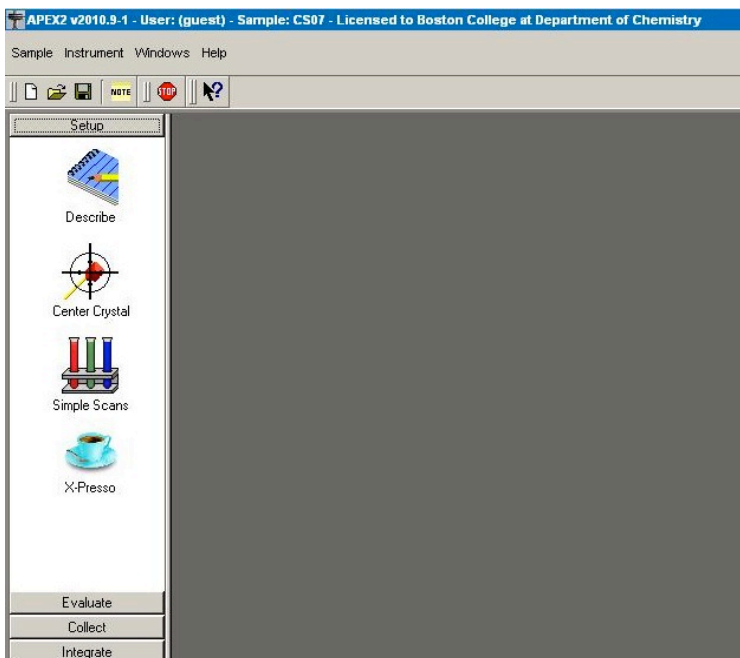
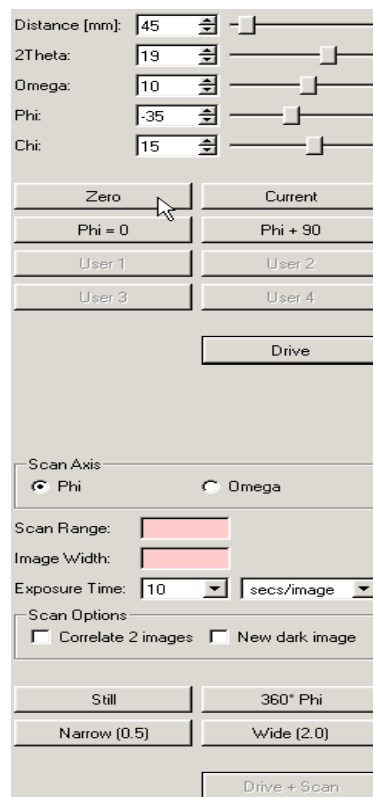

Figure 8
Figure 12
In window for new project (Figure 8), you need to fill some information:
- 11) Click OK to create new folders. The Task Bar appears with the Setup section, then click **Center Crystal** (Figure 8).
- 20) To screen crystals, click **Simple Scans** in APEX2 window (Figure 8) and the following menu (Figure 12) comes up. Set distance to 60 mm, then click **Zero, Still, Drive+Scan** to obtain a still image; or click **Zero, 360 Phi, Drive+Scan** to obtain a rotation image. If the crystal is of poor quality, remove it and mount a new one. Repeat steps in Crystal Mounting and Centering session, and then obtain still images or rotation images. Once you are satisfied with the quality of selected crystal, move to next step for unit cell determination.